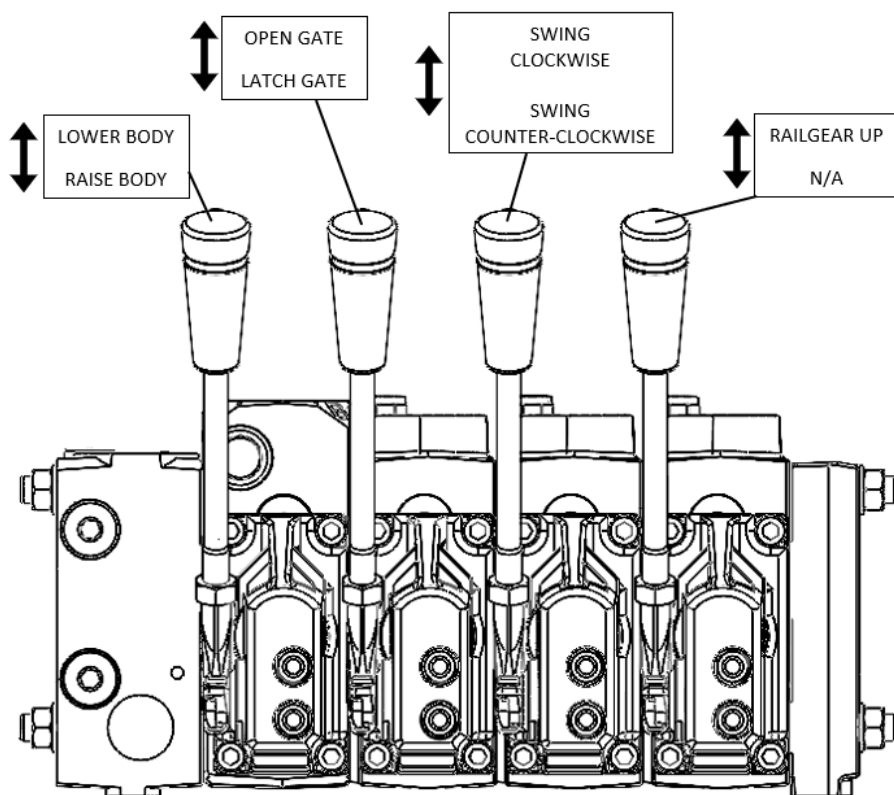

FIGURE 3-2 MANUAL OPERATION OF PVG VALVES
2. The PVG Valves are located behind the cab of the truck. Move the PVG Valve lever in the direction of “RAISE BODY” to raise the body. Releasing the lever from this position at any time will stop the body from moving. See Figure 3.2.
- The tailgate may be operated at any time by moving the specified lever in the “OPEN GATE” indicated direction until fully opened. See Figure 3.2.
2. The PVG Valves are located on the exterior of truck. Move the lever on PVG Valves labeled in the direction of “SWING RIGHT” or “SWING LEFT” to rotate the back of the body in the intended direction. Releasing the lever from this position at any time will stop the body from swinging. See Figure 3.2.